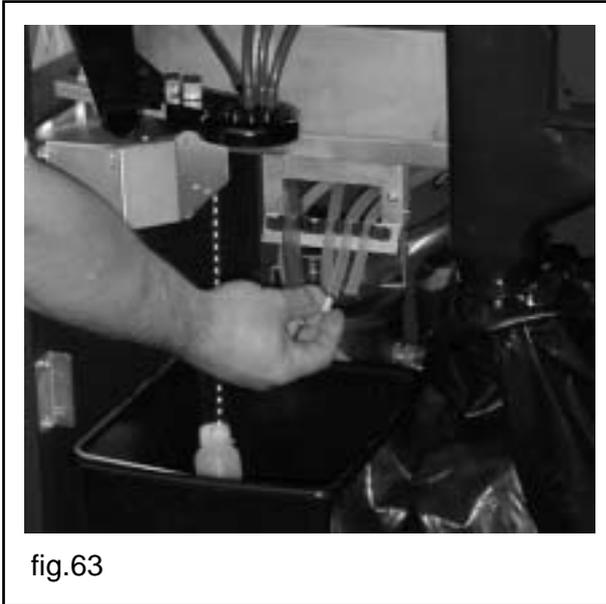

fig.63
- replace the plug once the emptying has been completed (fig.63)